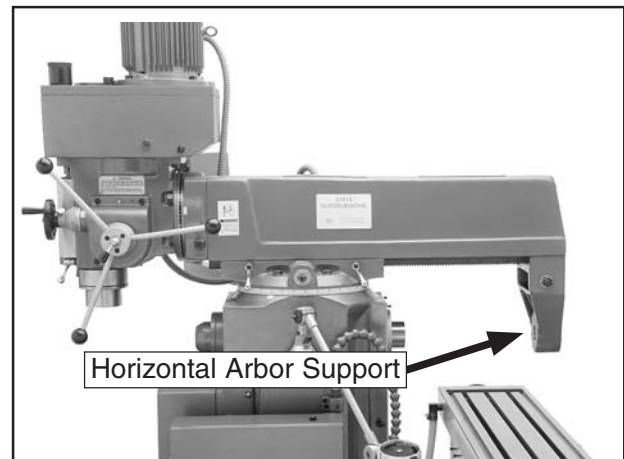

Figure 25. Ram and headstock rotated 180° to allow use of horizontal spindle.
3. Extend the ram so that the horizontal arbor support is all the way forward (see **Figure 25**).